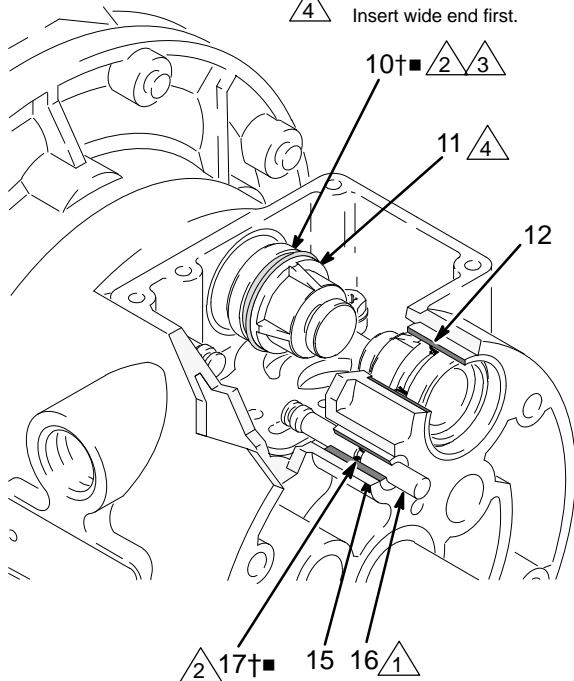

Fig. 10
4. Pull the two actuator pistons (11) out of the bearings (12). Remove the u-cup packings (10†■) from the pistons. Pull the pilot pins (16) out of the bearings (15). Remove the o-rings (17†■) from the push pins. See Fig. 10.
6. Inspect the bearings (12, 15) in place. See Fig. 10. The bearings are tapered and, if damaged, must be removed from the outside. This requires disassembly of the fluid section. See page 20.
4. Install an o-ring (17) on each pilot pin (16). Grease the pins and o-rings. Insert the pins into the bearings (15), **narrow** end first. See Fig. 10.
5. Install a u-cup packing (10) on each actuator piston (11), so the lips of the packings face the **narrow** end of the pistons. See Fig. 10.
6. Lubricate the u-cup packings (10) and actuator pistons (11). Insert the actuator pistons in the bearings (12), **wide** end first. Leave the narrow end of the pistons exposed. See Fig. 10.